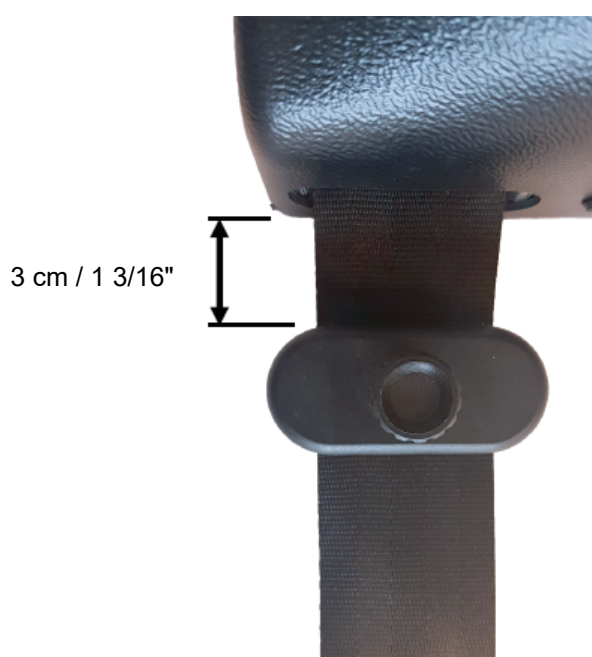

Figure 15
- Adjust both magnets, such that they are approximately 3 cm / 1-3/16" from the winch housing (see Figure 15).